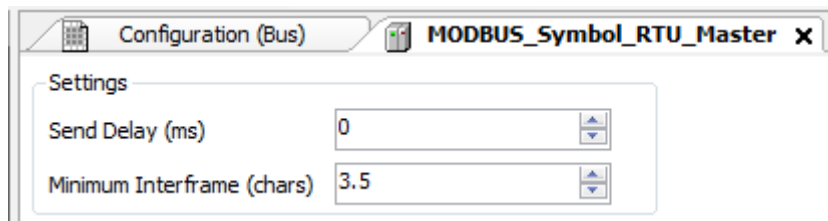

Figure 81: MODBUS RTU Master Configuration Screen
- Configure the general parameters of the MODBUS Master protocol, like: transmission delay times and minimum inter-frame as in Figure 81.